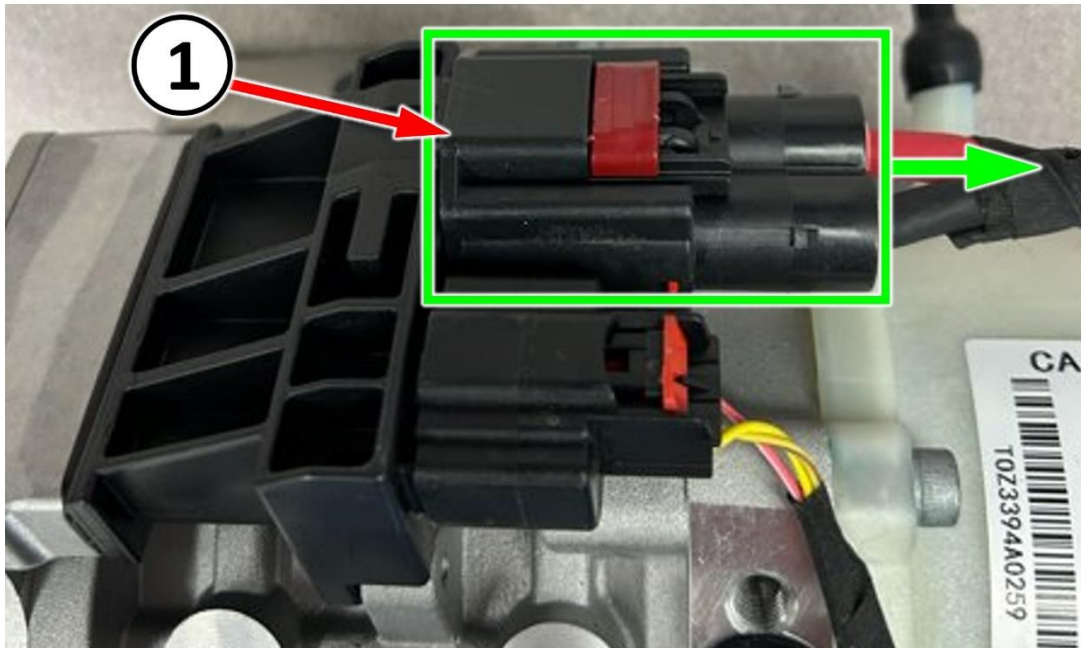

Figure C2 – EHPS Electrical Connector Pull Test
- b. Grasp the EHPS connector ONLY (not the wires) and pull to determine if it is securely connected to the EHPS pump. If connector releases, take photos to attach to repair claim. If connector does not detach, push on connector to ensure it is fully seated (Figure C2).